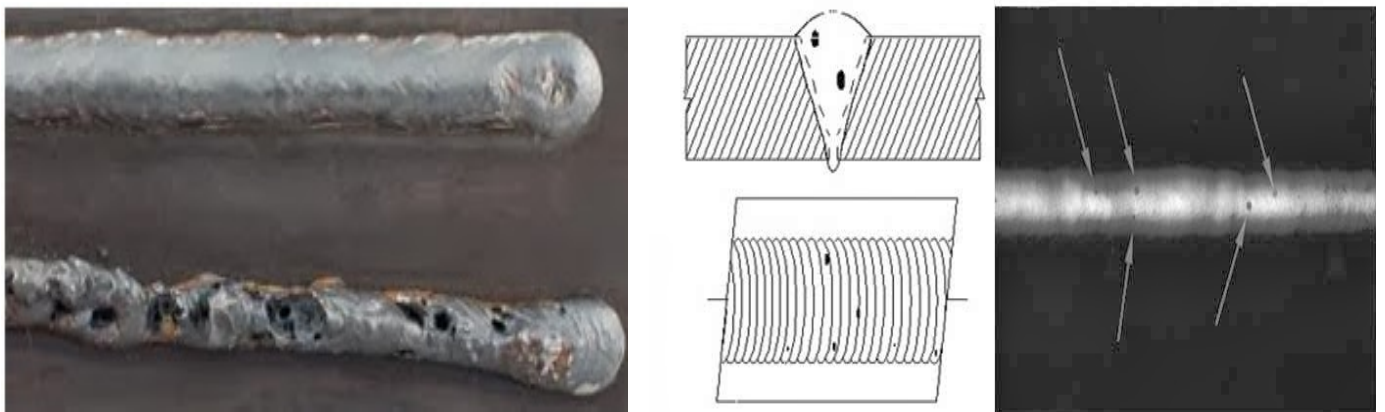

Figure 3. Examples of Porosity (by Shikh Ahmad Hanif / Amir Azli Mohd Al-Kharid, Public Domain)
**Piping or Wormhole Porosity** is caused by gas that is trying to escape through the weld. This will create a hole within the weld. Piping/Wormhole porosity error looks like a hole made by a worm eating its way through an apple. The corrective action for this is to keep the molten puddle in the liquid state for a longer period of time. This allows for all gas, created from the welding process, to fully escape out of the weld into the slag. We can keep the molten weld puddle in the liquid state longer by increasing the heat input through turning up the voltage or amperage depending on the process, slowing our travel speed, decreasing wire speed so less energy is consumed in melting of the core wire, or shortening of the arc length thus generating more heat at the weld puddle allowing the gases to escape. See Figure 3 for actual examples.